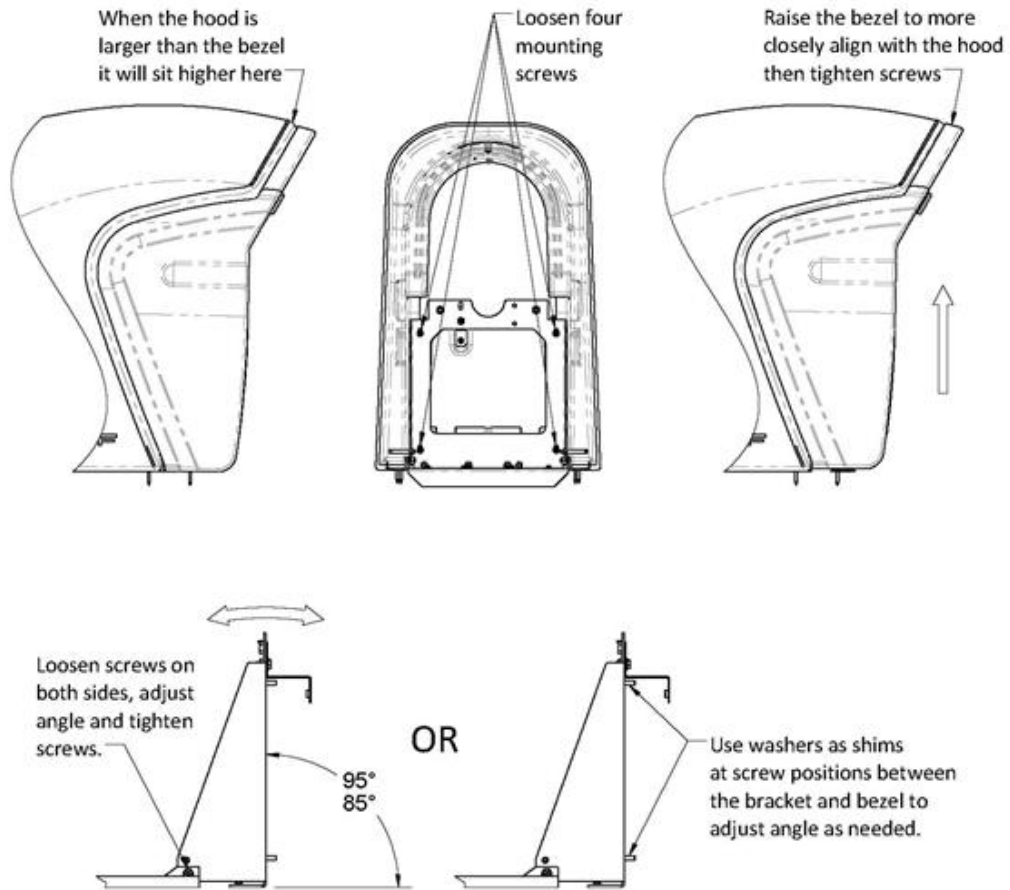

Figure 10 - Rack-Bezel Support and Hood Adjustment
8. Ensure that the face of the rack-bezel support is plumb - Figure 10.